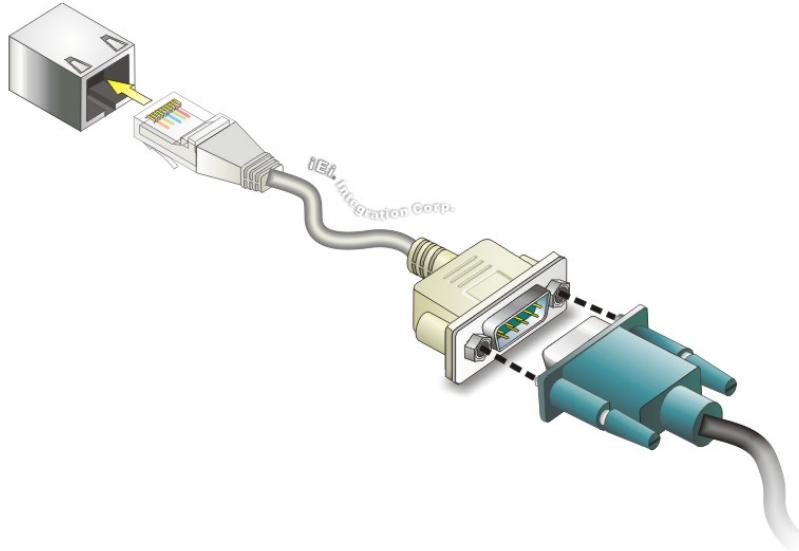

Figure 3-17: RJ-45 RS-232 Serial Device Connection
Step 2: Insert the RJ-45 connector. Insert the RJ-45 connector on the RJ-45 to DB-9 COM port cable to one of the RJ-45 RS-232 connectors on the TANK-871-Q170i series. See **Figure 3-17**.